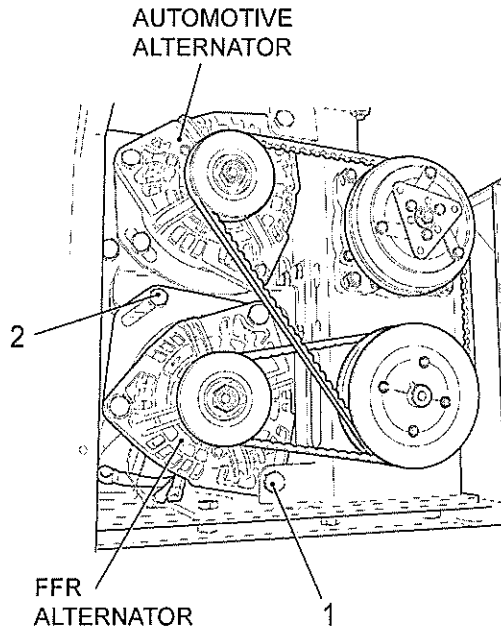

Fig 3 Hydraulic module drive belts
- 9.4 Loosen the pivot and adjuster bolts (see Fig 3 (1 and 2)) from the required alternator, release tension from drive belt and remove belt.
11.3 Loosen the pivot and adjuster bolts (see Fig 3 (1 and 2)) from the required alternator, release tension from drive belt and remove belt.